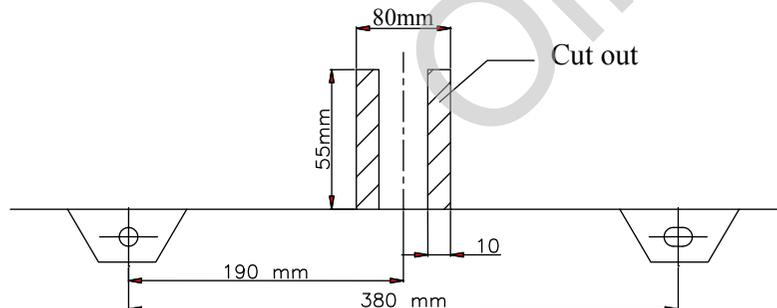

Fig. 3
1. Disassemble the bumper and cut out according to fig. 3.